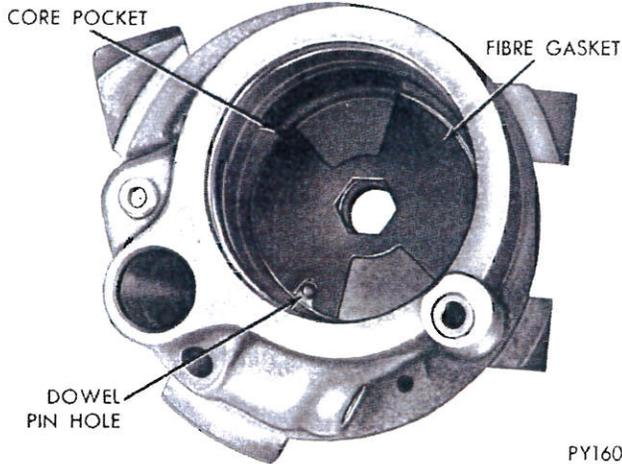

Fig. 26—Fibre Gasket Installed
- (4) Lubricate new large pump body to reservoir "O" ring and install on pump body.
- (5) Install new fibre gasket and brass seal plate to bottom of housing floor (fibre gasket on floor and brass seal plate on top of fibre). Note: **Pumps originally built with brass seal plate only, must be serviced with both brass seal plate and fibre gasket. Align index notches in plate and gasket with dowel pin hole in housing; cut-out sections of gasket and plate should be in line with core pockets on side of housing bore (Fig. 26).**